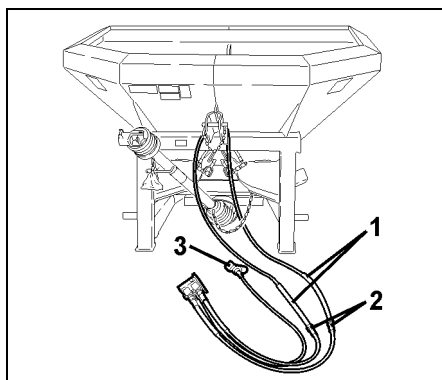

Fig. 74
- Dismantle existing block taps from the hydraulic hoses (Fig. 74/1).
- Connect hydraulic hoses (Fig. 74/2) of the two-way-valve unit to the hydraulic hoses (Fig. 74/1).
- Fix protective cap (Fig. 74/3) on the connecting hoses.